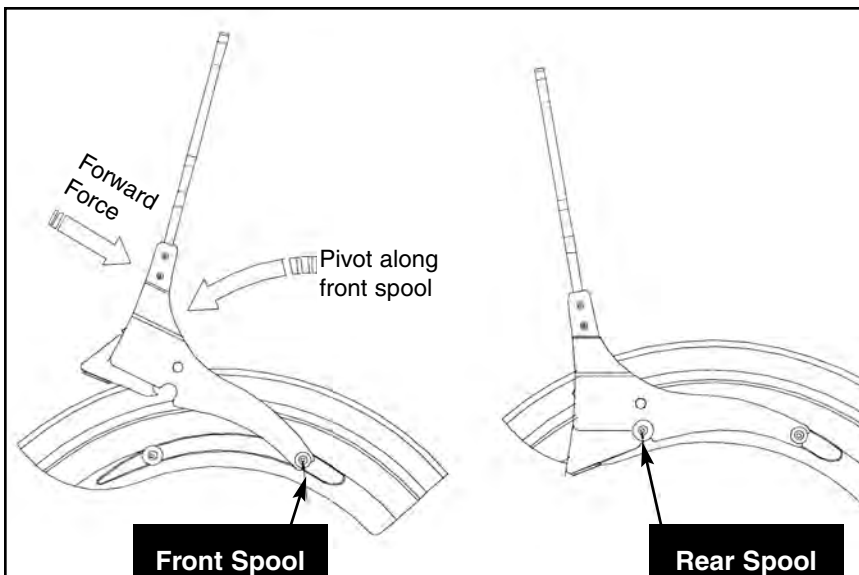

Figure 4
1. Check that the QuickSet lock is unlocked. Install Backrest assembly onto motorcycle by first positioning Side Plates on Front Spools. With smooth continuous forward force, rotate the Backrest assembly downward onto the Rear Spools while pushing down firmly to engage Side Plate latch mechanism with the Rear Spools. **Figure 4**